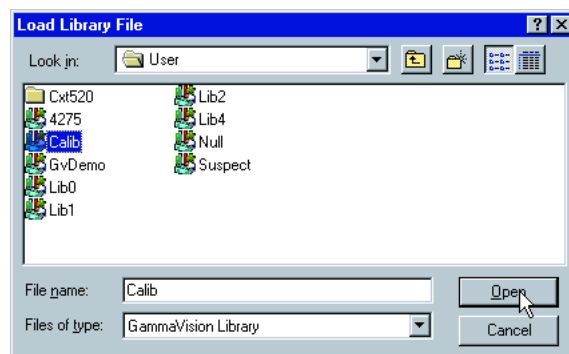

Fig. 28B
2.2 Browse to the User directory, choose the **Calib** library and click **Open** (Fig. 28B).